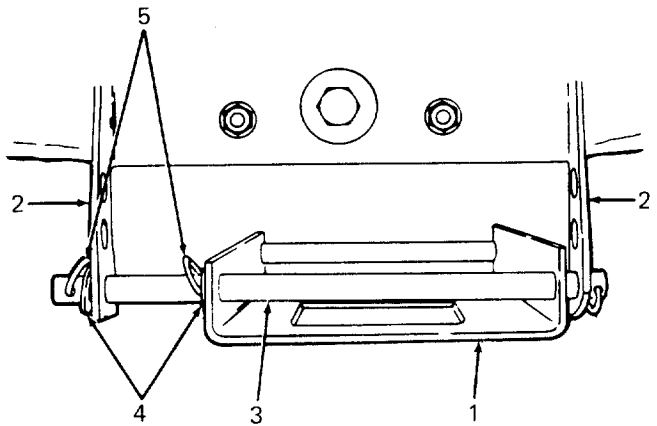

Figure 40
- Turn the front wheels to the left as far as possible. Remove the front hanger bracket assembly from the front hanger bracket as follows: Remove two hairpin cotters on right side of tractor hanger rod and slide rod out to the left. (Refer to Figure 40.)